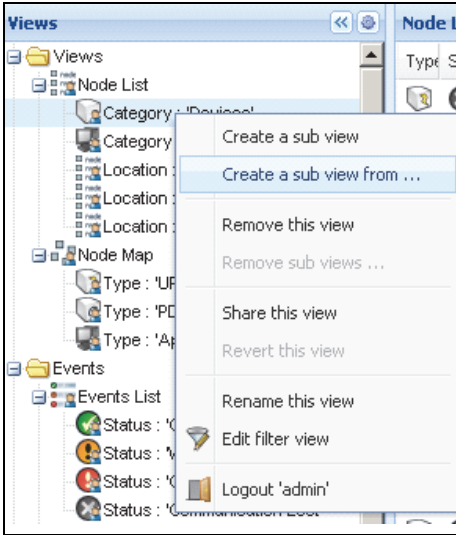

Figure 44. Contextual Sub-view Menu
- 2 Right-click this selection. The contextual menu sub-views displays (see Figure 44).